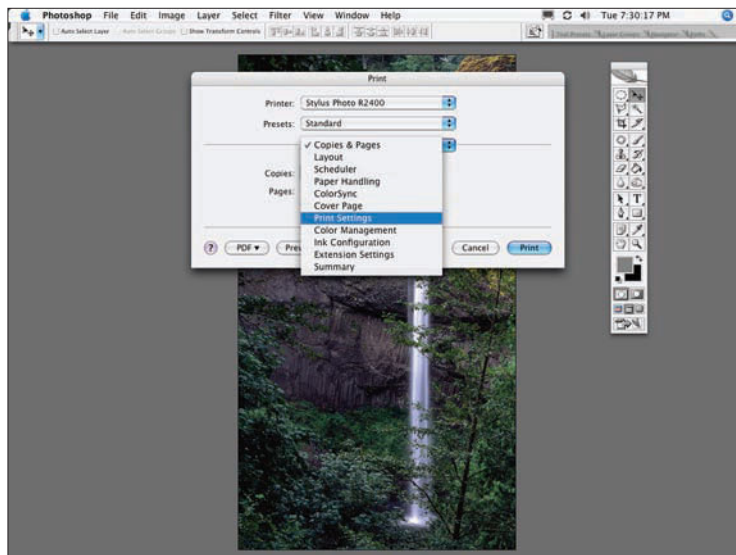

Figure 4.22
2. Next, choose File>Print with Preview. This opens a new dialog box that looks like Figure 4.22.